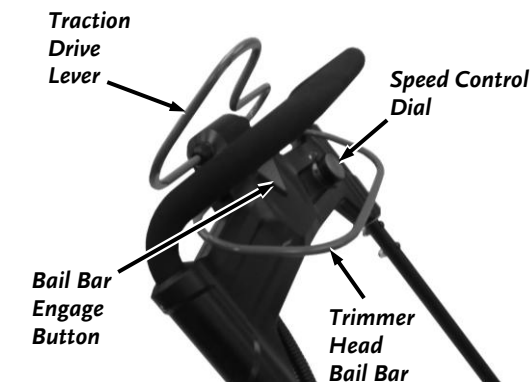

Figure 7b (Self Propelled)
1. Adjust the Speed Control Dial to the desired speed (**Figure 7b**).